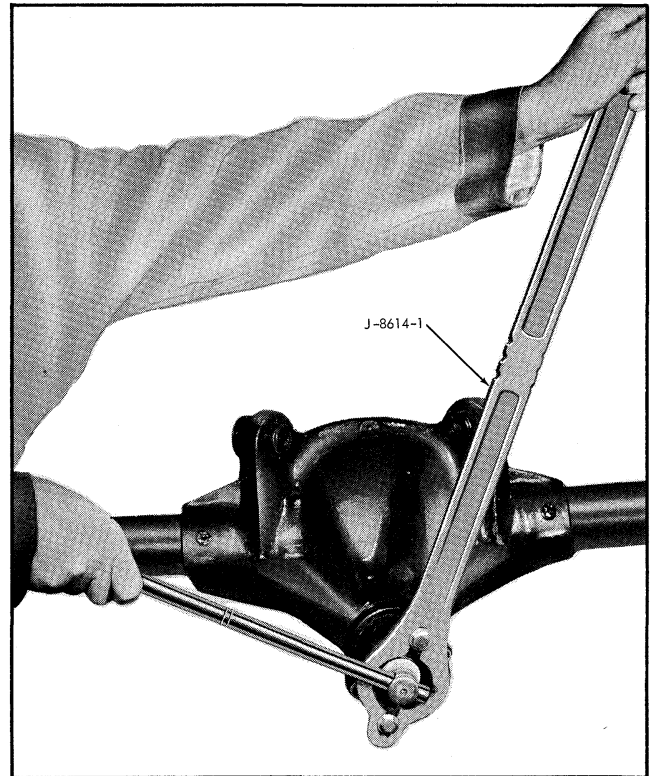

Fig. 4-7 Removing Pinion Nut
4. Hold companion flange with tool J-8614-1 (Fig. 4-7) and remove drive pinion nut and washer using heavy duty socket.
6. Count the number of exposed threads from the top of the pinion stem to the lock nut and remove the lock nut with a heavy duty socket while holding the companion flange with J-8614-1 (Fig. 4-7).